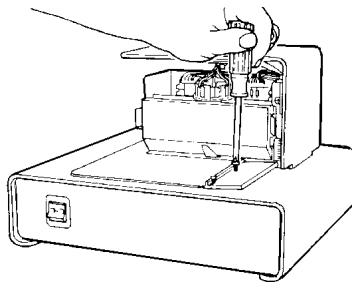

Figure 14. Document Guide Screw Removal
- 6.1.5 Remove two screws attaching document guide (See Figure 14).